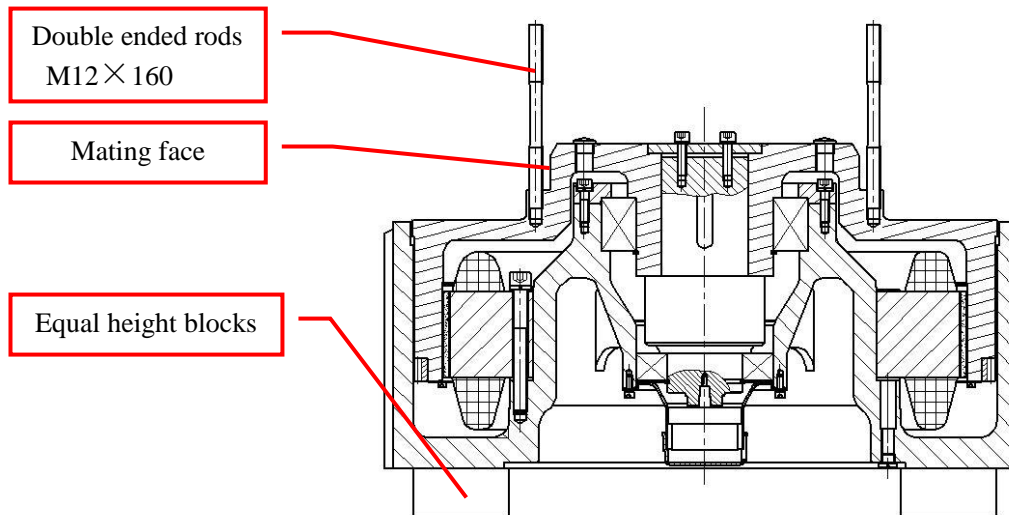

Figure 37: Install M12x160 screws
1. Hoist the traction machine with lifting equipment and place it on the equal height blocks (Make sure to protect the other parts of the traction machine). Clean the mating face of the brake wheel, and install two double ended rods M12×160 into two diagonal threaded holes of the brake wheel. See Figure 37.